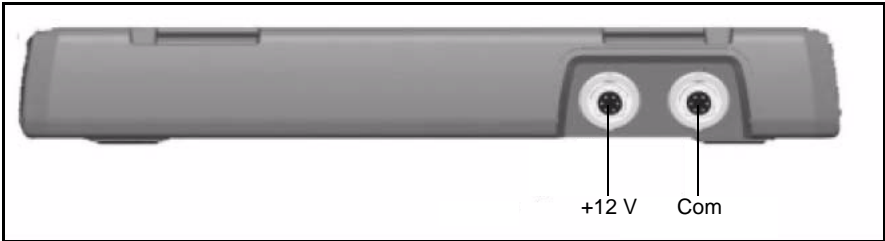

Figure 3.6 Docking Station +12 V power and com ports
2. Connect the docking station power supply to power the CU. Figure 3.6